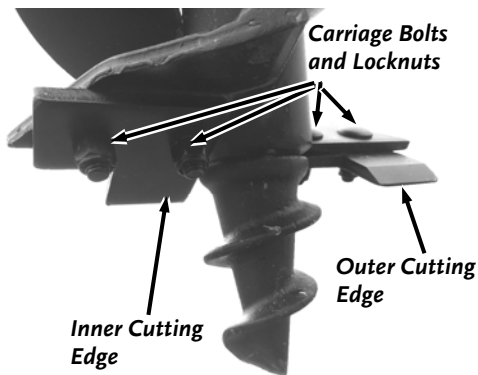

Figure 16
2. Remove the two Carriage Bolts and Locknuts that secure each Cutting Edge to the Auger using a 9/16" Wrench (**Figure 16**).
3. Position the new Cutting Edge on the underside of the Auger with the Beveled Edge facing up(**Figure 16**). Reinstall the two Carriage Bolts and Locknuts and tighten them using a 9/16" Wrench.